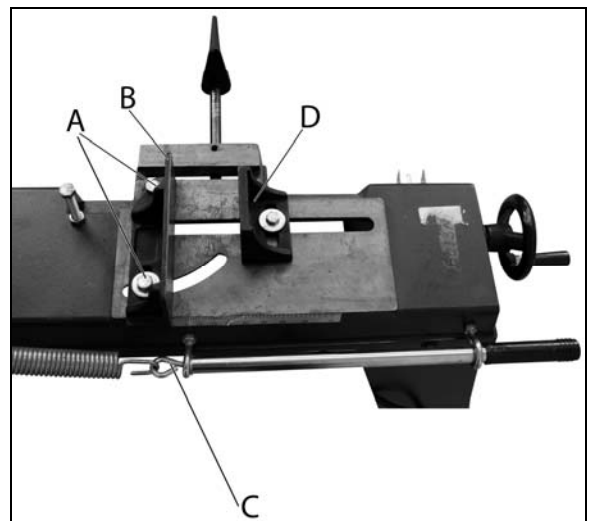

Figure 13
3. The vise can be adjusted to cut any angle from 0 to 45 degrees by loosening the two screws (A) (see Fig.13) and positioning the vise jaw (B) to the desired angle. A scale (C) is positioned on the rear of the table to indicate the proper cutting angle.